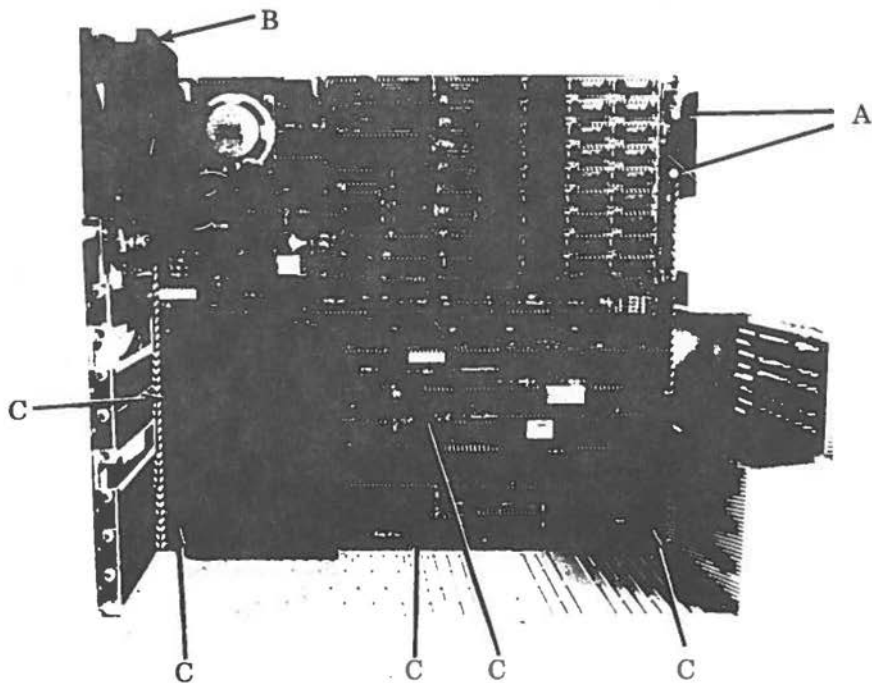

Figure 6-5 Board Removal
4. Unscrew the power connector (A) on the top right of the MPB, see Figure 6-5.
5. Remove fan (B) on the front panel of the rack.
6. Using a small pair of pointed pliers, squeeze the lugs on each of the plastic stand-offs (C) together and carefully lift the board over the stand-offs, see Figure 6-5.